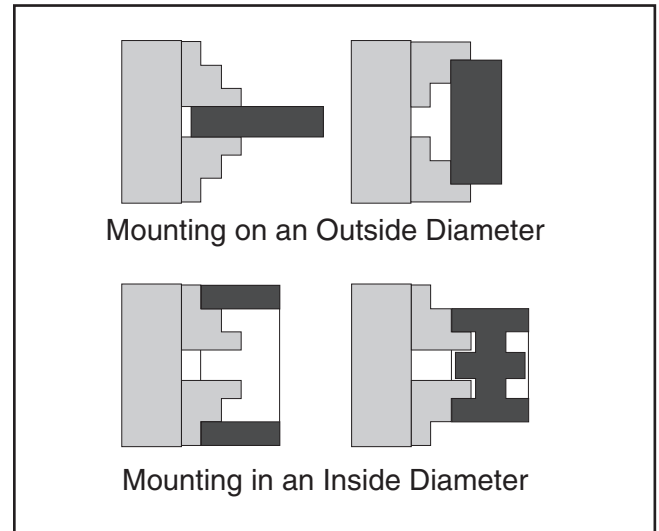

Figure 31. Examples of workpiece mounted in the 3-jaw chuck.
3. Use the chuck key to open the jaws so that the workpiece lays flat against the chuck face, jaw steps, or fits into the spindle hole. See **Figure 31** for examples of workpiece holding options for the 3-jaw chuck.